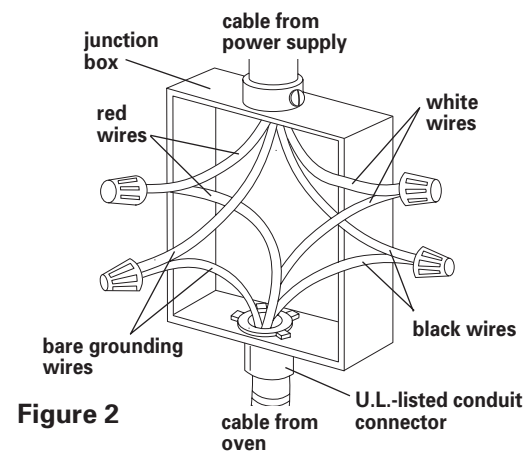

Figure 2
8. Connect white oven cable wire to neutral (white) wire in junction box. See Figure 2.
9. Connect the bare grounding oven cable wire to a grounded wire in the junction box. See Figure 2.
9. Connect the bare grounding oven cable wire to the green grounding wire in junction box. Do Not connect bare grounding wire to neutral (white) wire in junction box. See Figure 2.